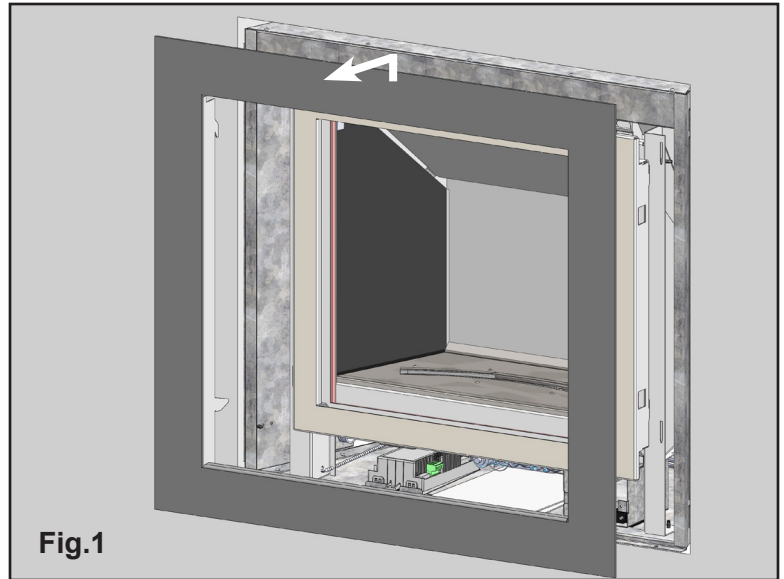

Fig.1
2. Lift the face trim up and out, away from the appliance, and set it aside. **(Fig.1)**